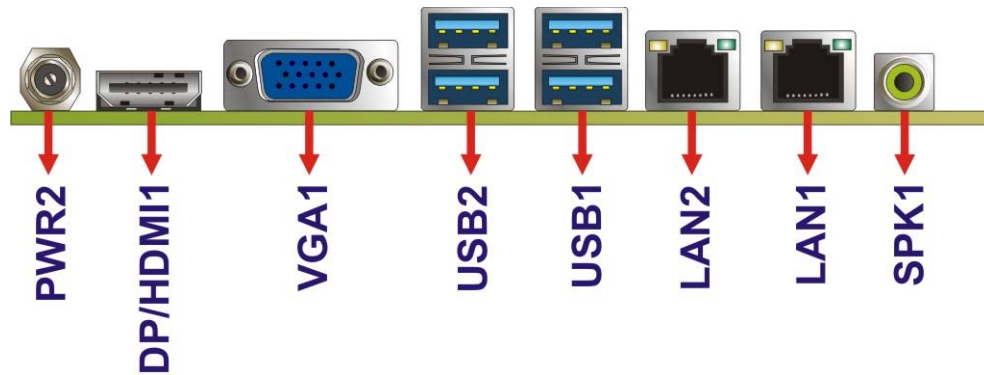

Figure 3-27: External Peripheral Interface Connector
Figure 3-27 shows the tKINO-BW external peripheral interface connector (EPIC) panel.
CN Location:	See Figure 3-27
- CN Location:** See **Figure 3-27**
CN Location: See **Figure 3-27**